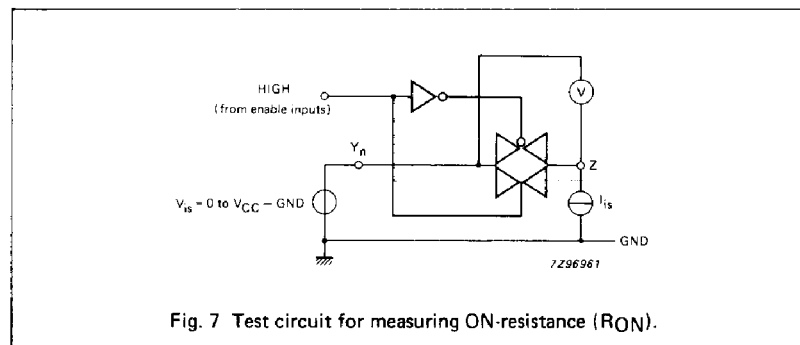

Fig. 7 Test circuit for measuring ON-resistance ( $R_{ON}$ ).
- For test circuit measuring  $R_{ON}$  see Fig. 7.